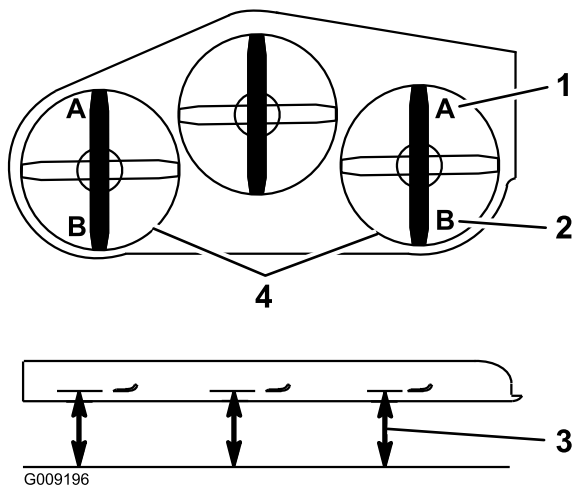

Figure 107
9. On both sides of the deck, measure from the level surface to the front tip of the blade (Position A) as shown in Figure 107.
15. On both sides of the deck, measure from the level surface to the back tip of the blade (position B) as shown in Figure 107.